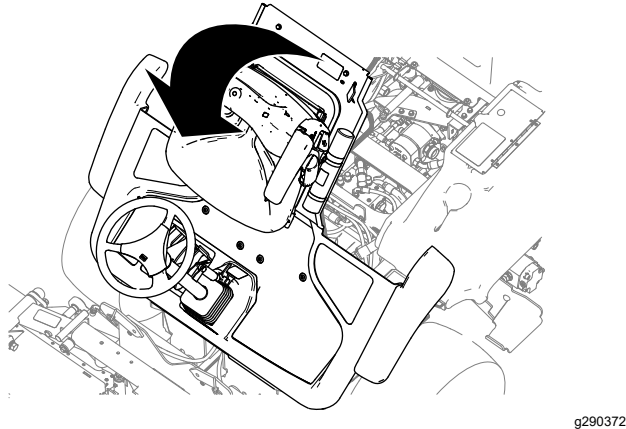

Figure 44
2. Raise the platform (Figure 44).